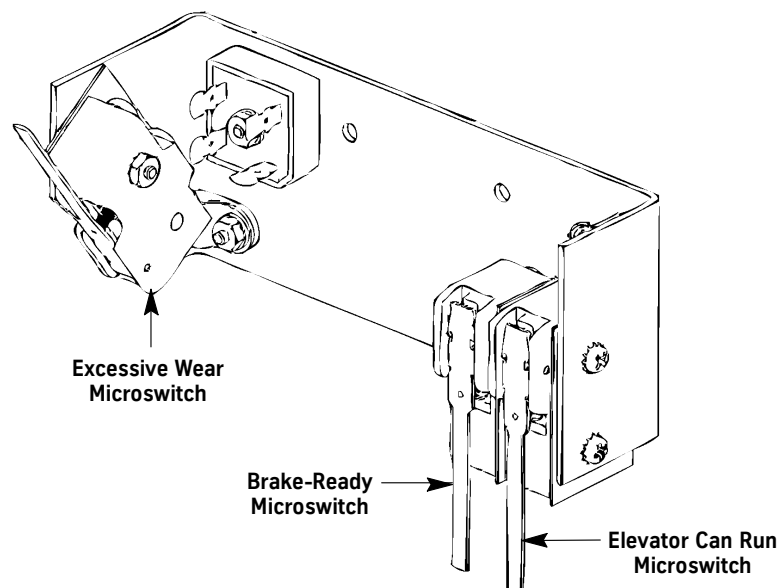

Figure 9 - Brake-ready Microswitch and Trigger Mechanism
4. The hydraulic pressure will slowly bleed off until the trigger and latch are resting together and engaged. See Figure 9 on page 34.